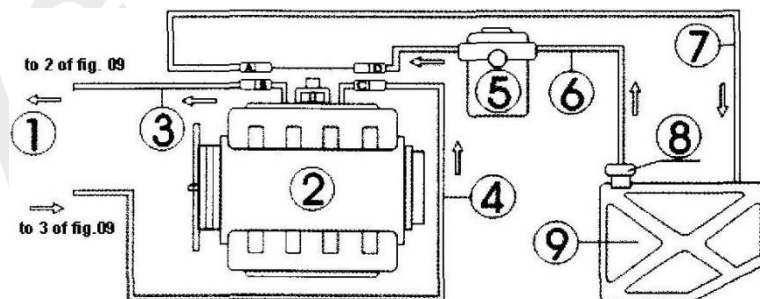

Fig.09
The hose line connection of the engine with return hose is shown as in Fig.09.
- 1) Disconnect the connections of fuel supply hoses(C、D) and fuel return hoses(A、B) of the engine fuel system (wrap the connector with towel when disconnecting the connector). Choose proper connectors and connect them to the B end and C end separately, and then connect the other ends to corresponding return hose and outlet hose of the unit. See Fig.09.